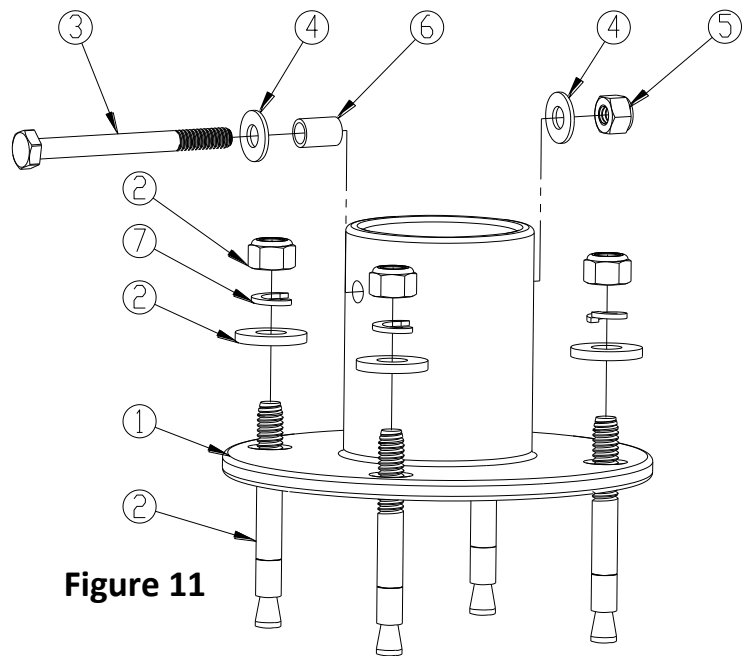

Figure 11
- 16) Using the four holes on each flange as a template (see Figure 11 below), mark the location of each hole on the deck. Next, drill a 5/16" (7.9 mm) diameter by 1-7/8" deep hole at each marked location. **CAUTION: Do not drill holes larger than 5/16" (7.9 mm).** Maintain drill hole straight and perpendicular for proper holding strength of anchor stud.